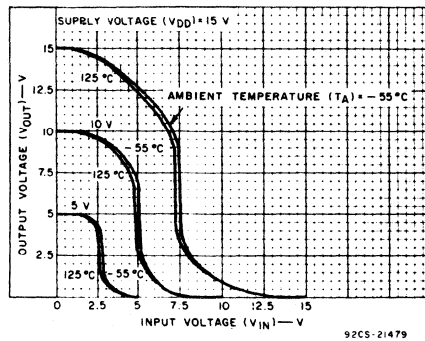

Fig. 14—Voltage transfer characteristics for COS/MOS transistor-pair amplifier in Fig. 10.
- Stable transfer characteristics over an operating temperature range of -55°C to $+125^\circ\text{C}$ when operated in complementary circuit configuration at supply voltages in the 5 to 15 volt range (see Fig. 14)
Fig. 14 shows typical voltage-transfer characteristics of each COS/MOS pair in the CA3600E at several values of V_{DD} . The shape of these transfer characteristics is comparatively constant despite temperature changes from -55 to $+125^\circ\text{C}$.